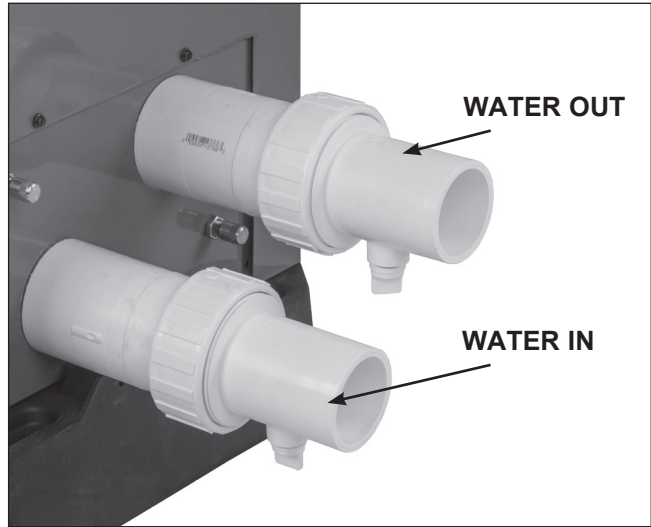

Fig. 6: Water Connections/Drain Plugs
6. Drain plugs are located on each union fitting as shown in Fig. 6 for draining the system during winterizing.
NOTE: While it is possible to mount the upper union with the drain plug vertically, the manufacturer has determined that installing both unions with the drain plugs facing down as shown in Fig. 6 provides for the best draining of the system.